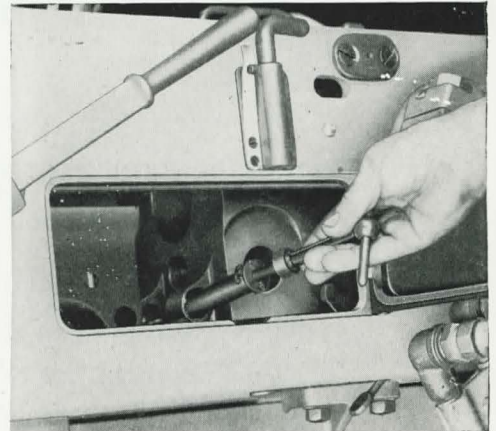

Figure 54
- (1) Insert the key (298871) in the lock in the side door, pressing in firmly to release the bolt spring, and turn the key to open the door.
- (2) Insert wrench (298869-6) in the slot in the head of the rammer tray bolt. Push the bolt in against spring tension and rotate it 1/4 turn in either direction to remove, **Figure 54**.